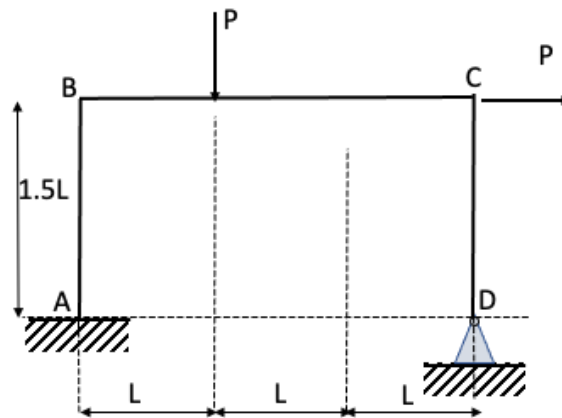

Figure Q6
- 6 For the frame shown in Figure Q6 where the beam and columns have plastic moment capacities of M , what is the minimum collapse load?